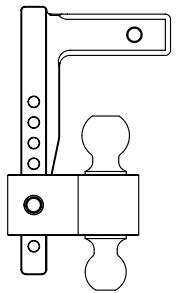

Figure 3
11. While not towing, the ball holder on the 6", 8", and 10" drop models can be stowed behind the drop bar. **See Figure 3.**